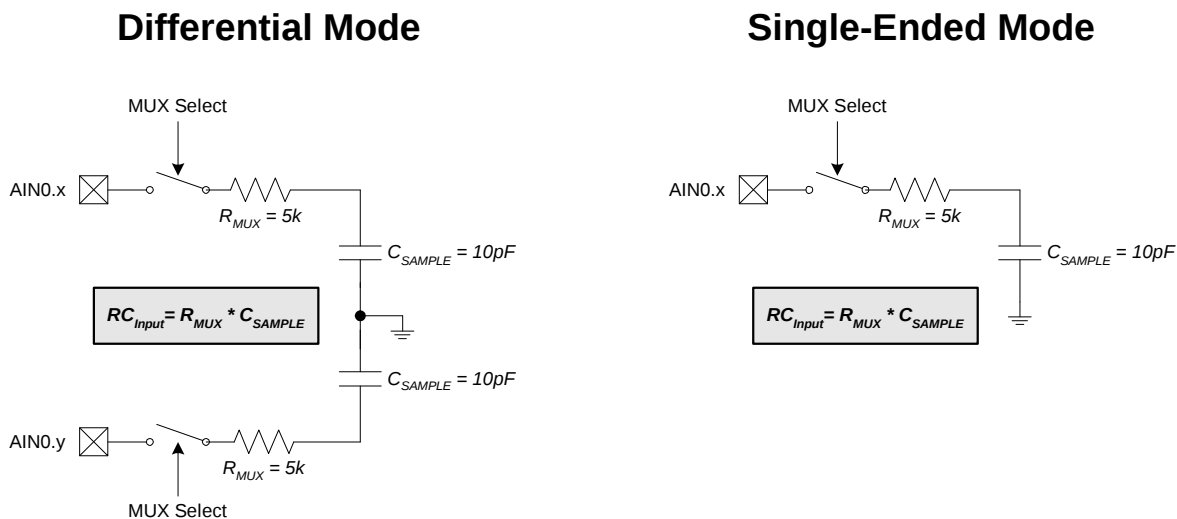

Figure 6.4. ADC0 Equivalent Input Circuits
A minimum tracking time is required before an accurate conversion can be performed. This tracking time is determined by the ADC0 MUX resistance, the ADC0 sampling capacitance, any external source resistance, and the accuracy required for the conversion. Figure 6.4 shows the equivalent ADC0 input circuits for both Differential and Single-ended modes. Notice that the equivalent time constant for both input circuits is the same. The required settling time for a given settling accuracy (SA) may be approximated by Equation 6.1. When measuring the Temperature Sensor output, R_{TOTAL} reduces to R_{MUX} . An absolute minimum settling time of 1.5 μs is required after any MUX or PGA selection. Note that in low-power tracking mode, three SAR clocks are used for tracking at the start of every conversion. For most applications, these three SAR clocks will meet the tracking requirements.